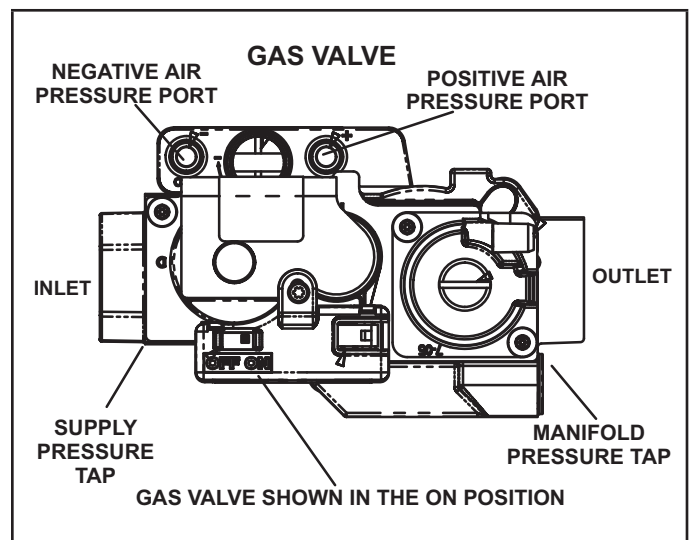

FIGURE 56
Gas Valve Operation (FIGURE 56)
- 6 - Move the gas valve switch to the OFF position. See FIGURE 56.
- 8 - Move gas valve switch to the ON position. See FIGURE 56. Do not force.